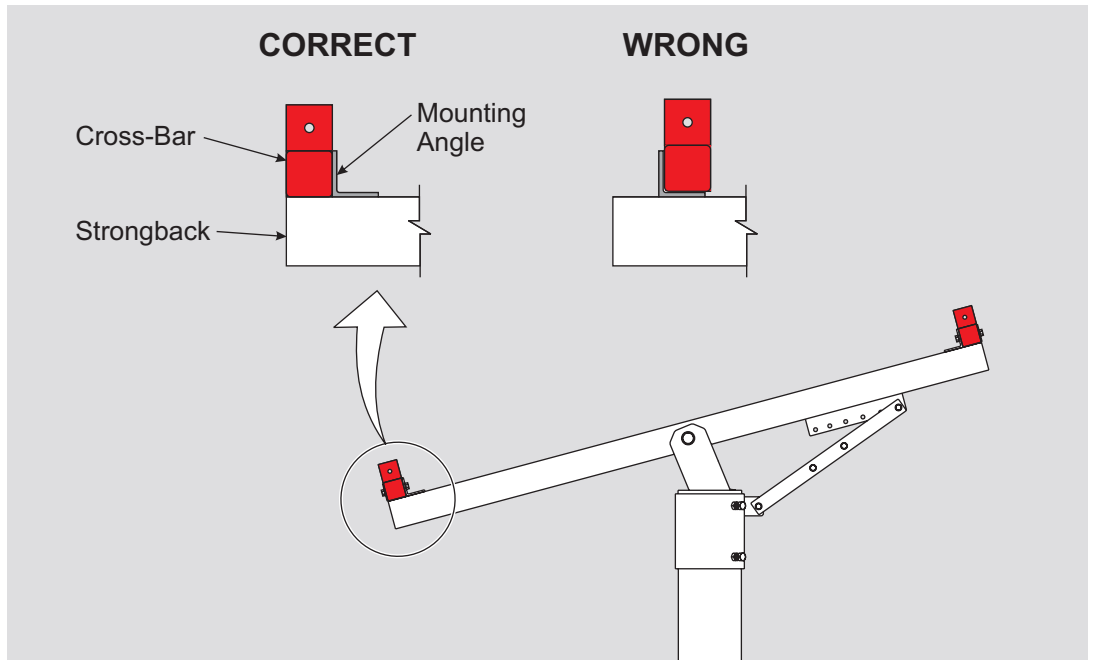

Figure 3-1: Cross-Bar Positioning relative to Mounting Angles
Cross-Bars are mounted to the outside of the Strongback mounting angles they do not nest into the Mounting Angles. (See Figure 3-1)
- B. Install the other Cross-Bar to the Strongback using the same procedure. Refer to Figure 3-1 as needed for proper positioning.